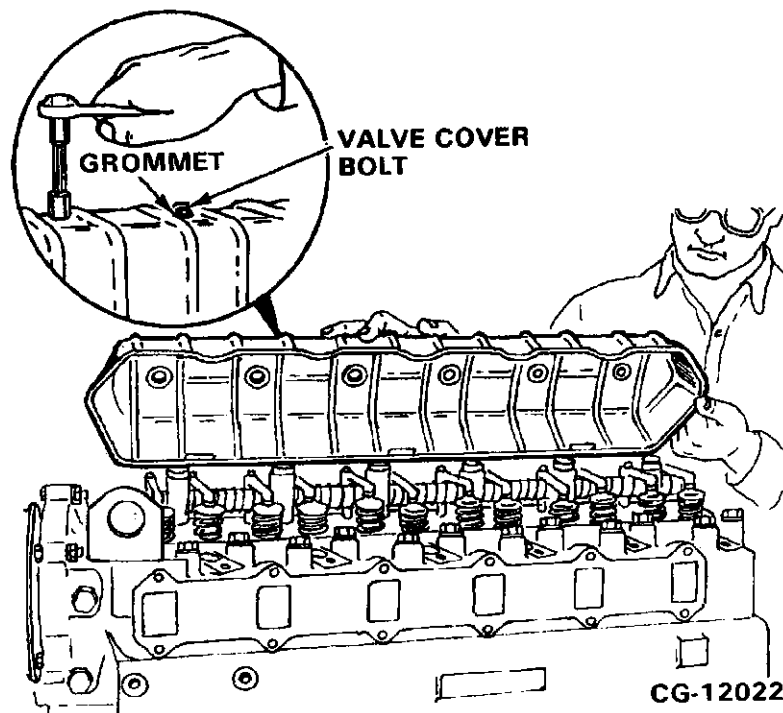

Figure 4.3. Valve Cover Removal
1. Remove the valve cover bolts and grommets, then remove the valve cover and gasket. Discard the gasket. (Refer to Figure 4.3.)